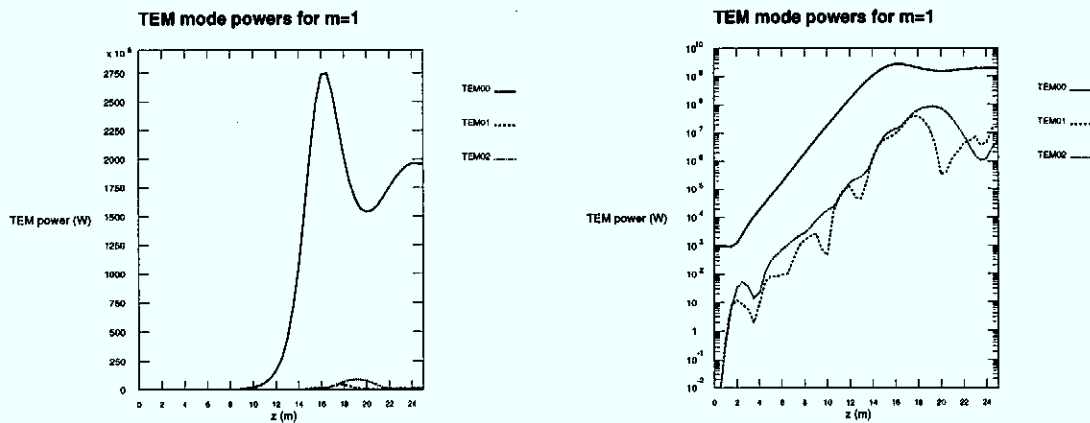

Figure 4: The modal contents of the radiated fields along the undulator.
- The mode contents of the radiation field (See Fig.4), both in a linear and semilog plot, showing the TEM00, TEM01 and TEM02 modes.